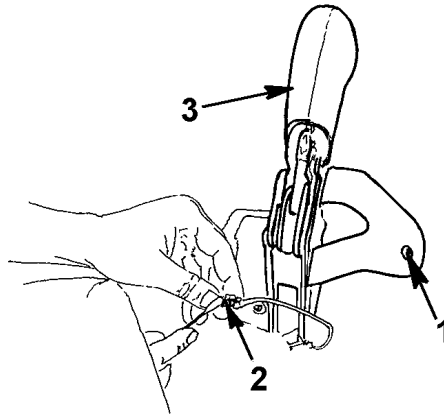

Figure 3: Harness Connector Disconnect
3. Disconnect the parking brake light harness connector (Figure 3).